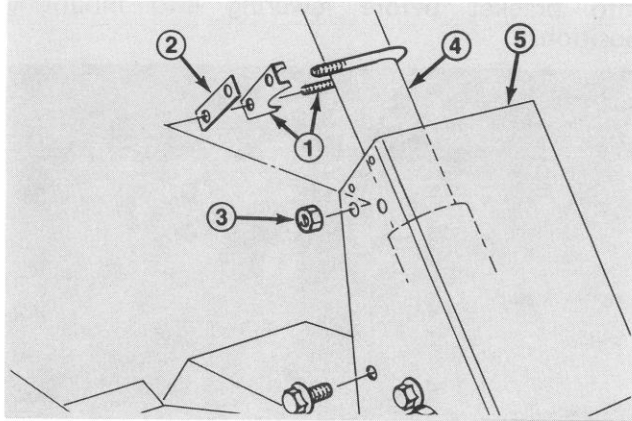

Figure 1
1. Pivot steering post upward until holes in steering tower line up with holes in side of steering gear. Retain steering gear to steering tower with three flangehead capscrews (3/8 - 16 x 1 in. - 25 mm), but do not tighten the capscrews (Fig. 1).
2. Secure steering post to steering tower with clamp assembly, spacer and clamp nuts. Clamp assembly and spacer to be positioned inside tower (Fig. 1).
6. Tighten the three capscrews holding steering gear to side of steering tower (Fig. 1). Also install the knob on parking brake rod.